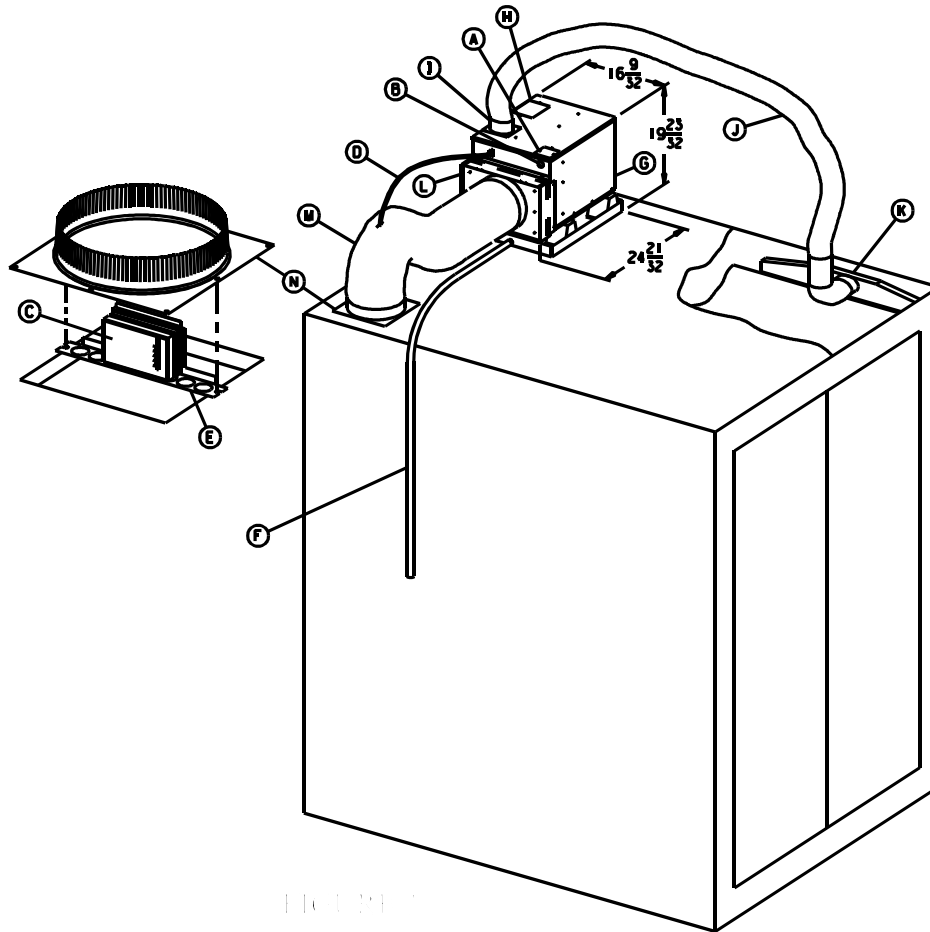

FIGURE 1
The 6531 series package air conditioners are intended for installation on the roof of elevator cabs or like-sized indoor use contrivances. It is understood that the manufacturer has provided an installation area which allows for cutouts and unit mounting without cutting vital frame members or electrical wiring and that structural members do not create restrictions by passing through airways required by the air conditioner. A recommended installation is shown in Figure 1.
- A) High voltage wiring must be routed through a separate opening in the outer cabinet. This opening is referred to as the "power wire entry" (See Figure 1). RV Products provides a 7/8" diameter opening for 1/2" conduit. A knockout for 3/4" conduit is also provided.